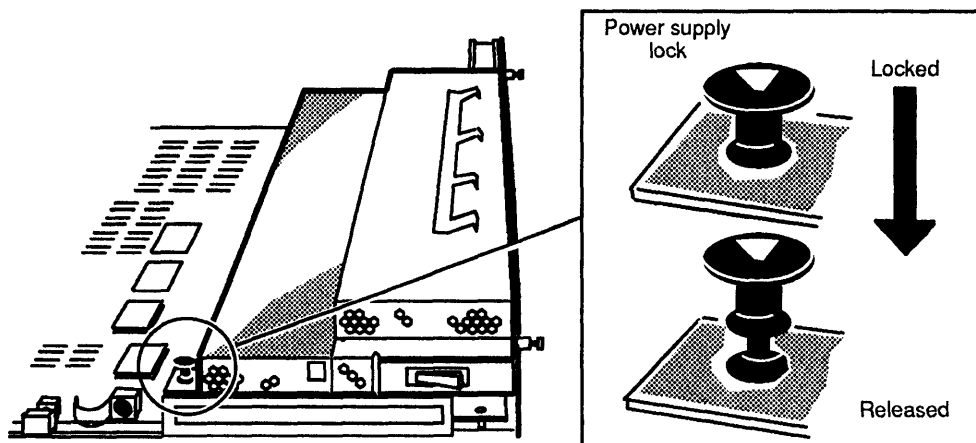

Figure 4-32 Securing the Power Supply to the Tray Assembly
6. Press down on the power supply lock to secure the power supply to the tray assembly, as shown in Figure 4-32.